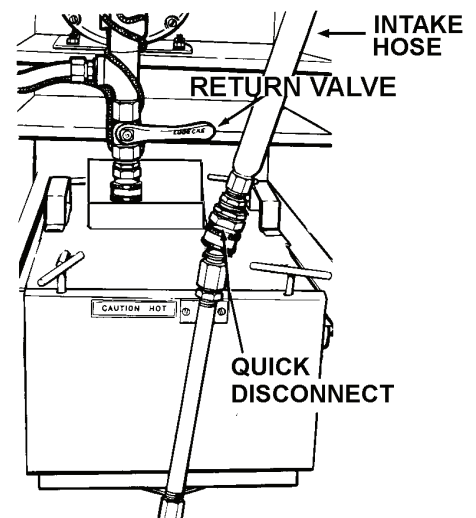

FIGURE 10. QUICK DISCONNECT
1. Release intake hose from filter drawer using the quick disconnect. Refer to Figure 10.